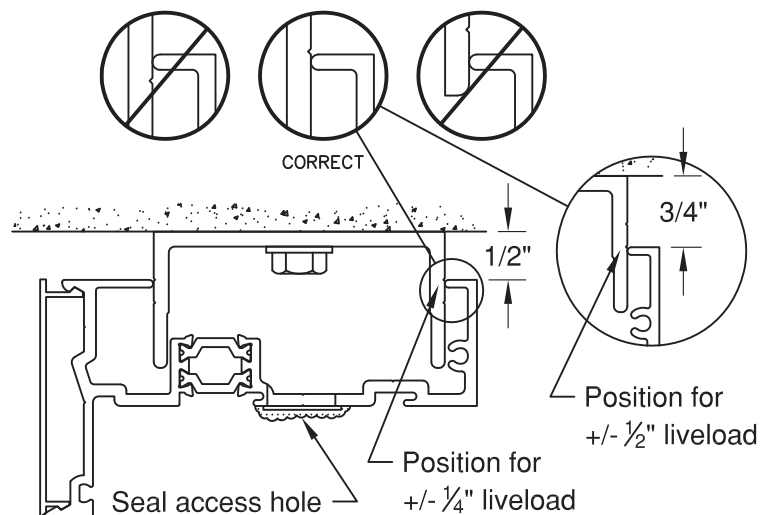

Figure 12
- 3.2 Prior to setting frame, tape head anchor pieces above access hole locations in head. Place frame onto sill anchor & tilt into opening plumb, square & level. Check caulk joints to insure uniformity. Anchor head through access holes per approved shop drawings. NOTE: FOR OPTIMAL PERFORMANCE OF HEAD ANCHOR, DIE LINES MUST BE VISIBLE ON THE ANCHOR AT THE TOP OF THE FRAME. **SEE FIGURE 12.** Seal over access hole on the inside.